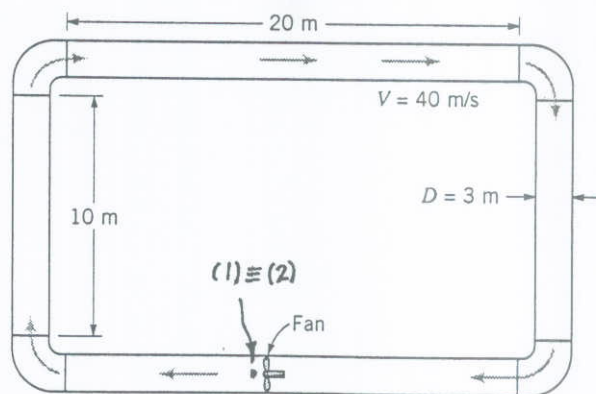

FIGURE P8.90
8.90 A fan is to produce a constant air speed of 40 m/s throughout the pipe loop shown in Fig. P8.90. The 3-m-diameter pipes are smooth, and each of the four 90-degree elbows has a loss coefficient of 0.30. Determine the power that the fan adds to the air.